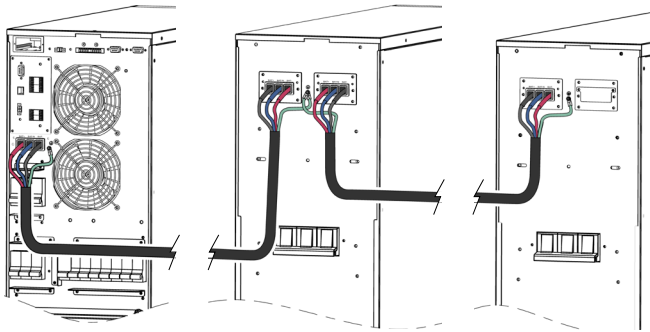
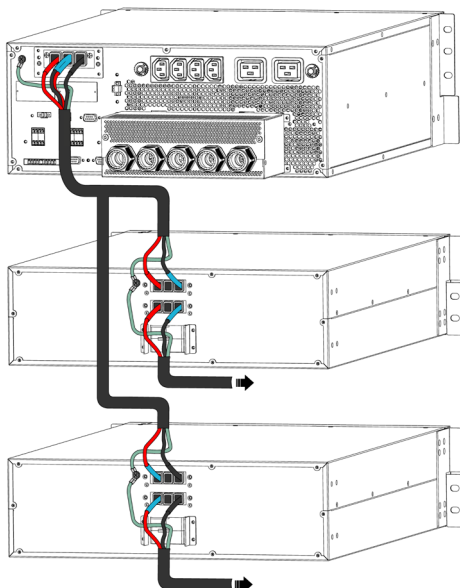

Fig. 43. Connection between the UPS and one or several battery cabinets..
Fig. 45. Connection between the 15 and 20 kVA rack version UPS and one or more battery cabinets.
- For extended autonomy where **more than one module or battery cabinet** is supplied, the connection will always be in parallel between them and the unit (see Fig. 43 to Fig. 45).